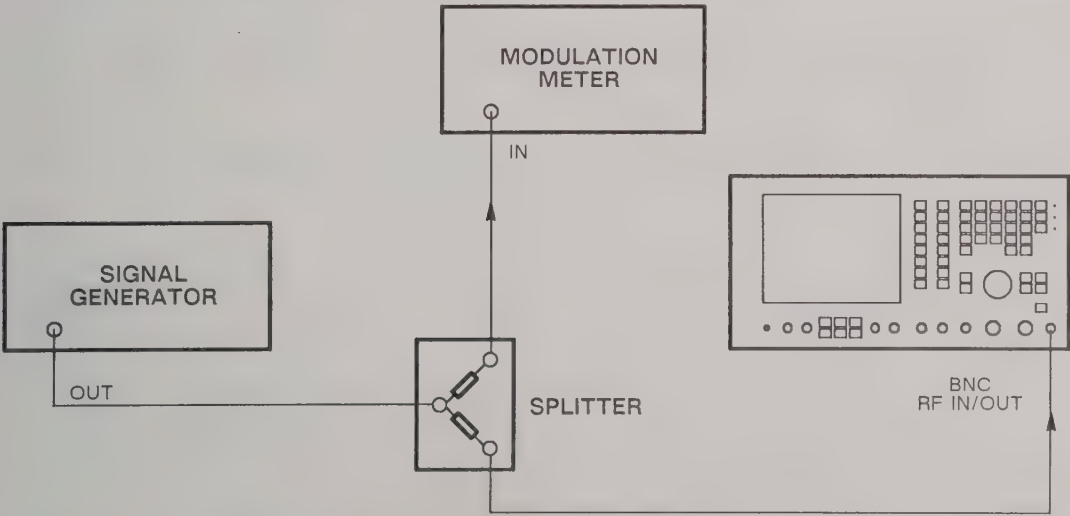

Fig. 6-4 Test equipment connections for modulation meter AM depth and FM deviation
- (1) Connect the signal generator to the input of the power splitter. Connect the outputs of the power splitter to the RF IN/OUT BNC socket and to the modulation meter. See Fig. 6-4.
- (2) On the 2955A, set the MODE to TRANSMITTER TEST, MOD to AM, FILTER to 0.3-3.4 kHz BAND PASS and RF IN/OUT socket to BNC.
- (2) On the 2955A, set the MODE to TRANSMITTER TEST, MOD to FM, FILTER to 0.3-3.4 kHz BAND PASS, DIST'N, S/N and SINAD to off and RF IN/OUT socket to BNC.
- (3) Set the signal generator carrier frequency to 500 MHz, level to 13 dBm, 25 kHz FM and 1 kHz internal modulating frequency.
- (4) Set the modulation meter to FM in a 0.3 to 3.4 kHz bandwidth.
- (5) Check that the MOD LEVEL reading is the same as the modulation meter reading $\pm 5\% \pm 1$ digit. Check that the FM bar chart indicates the FM being applied.
- (6) Repeat (3) and (5) for other carrier frequencies from 1.5 to 1000 MHz and deviations between 0 and 25 kHz.
- (7) On the 2955A, set the FILTER to 15 kHz LOW PASS.
- (8) Set the signal generator carrier frequency to 500 MHz, level to 13 dBm, modulation level to 25 kHz external FM at 10 kHz modulating frequency (from the LF generator).
- (9) Set the modulation meter to FM in a 30 Hz to 50 kHz bandwidth.
- (10) Set the synthesized LF generator to give a 10 kHz sinewave. Adjust the level to suit the external modulation input of the signal generator.
- (11) Check that the MOD LEVEL reading is the same as the modulation meter reading $\pm 6.5\%$.